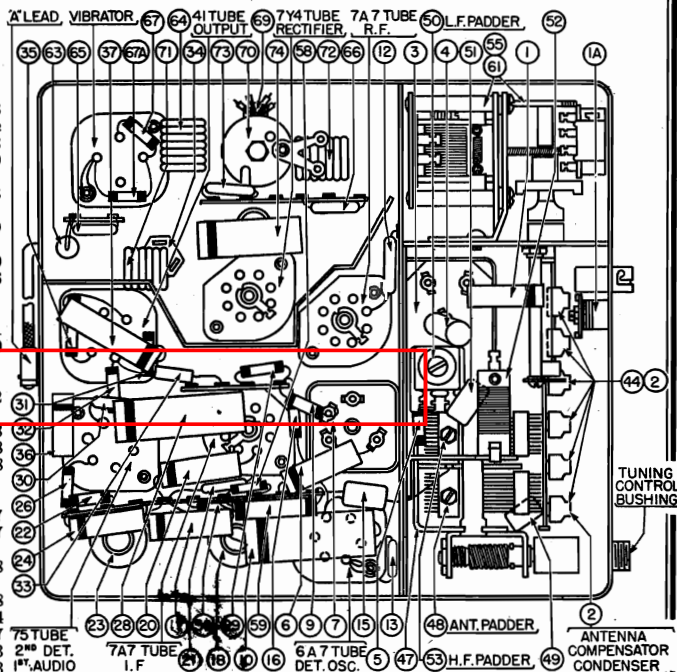

FIGURE 2
**NOTE 5** — When installing the radio in the car, follow the installation instructions carefully. Tune in a weak broadcast signal between 1200 and 1400 Kilocycles on the control scale. Remove the plug button on the end of the radio and adjust the antenna compensator ③ (See Figure 2) for maximum signal.